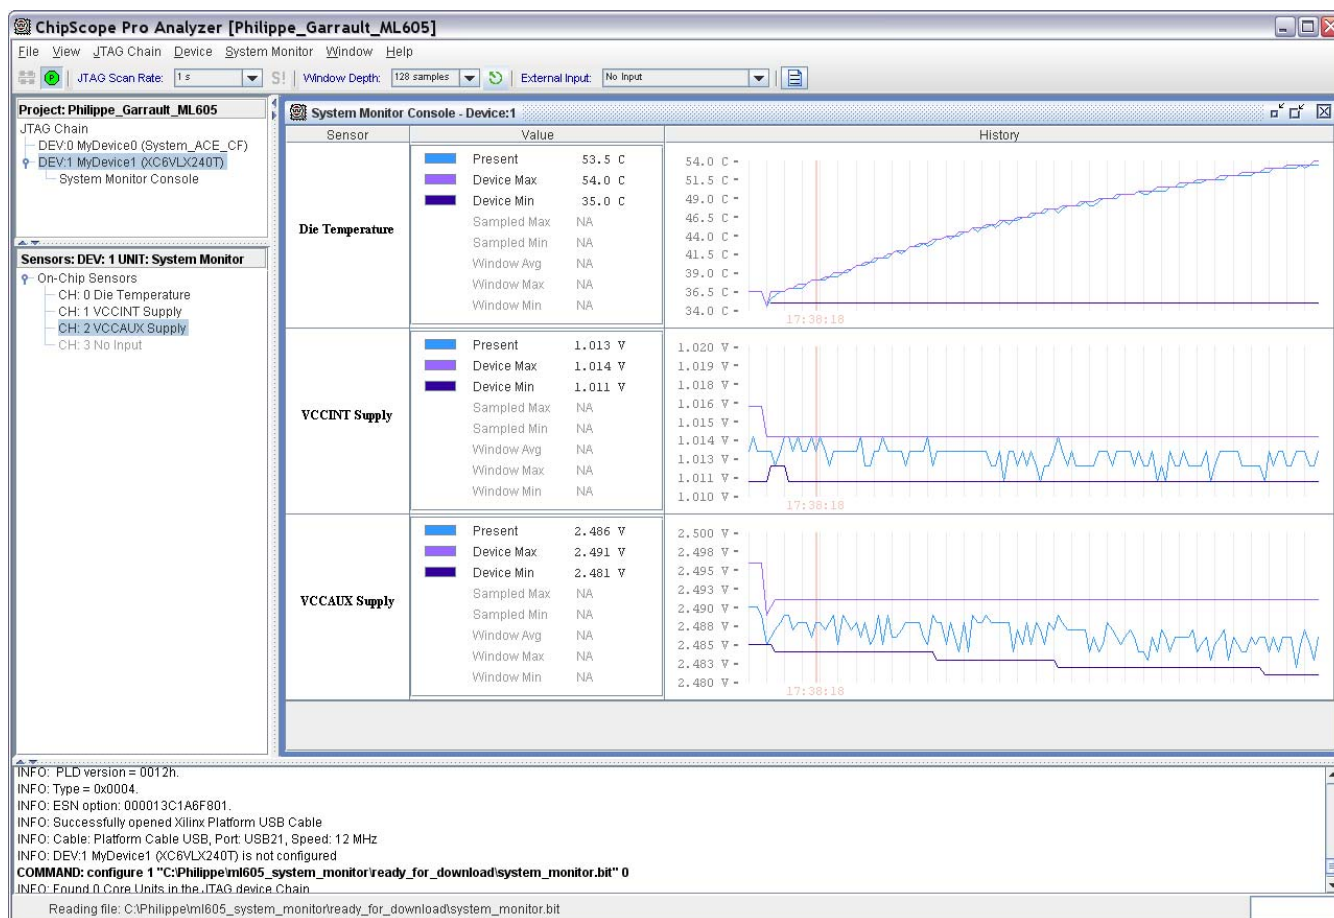

Figure 3-4: Voltage and Junction Temperature Monitoring with ChipScope
- **On-board Monitoring** – The latest Xilinx device families provide internal sensors and at least one analog-to-digital converter to measure supplied voltages and device temperature. The ChipScope utility provides real-time JTAG access to measure the different supply source voltages or device junction temperature before and after device configuration (see Figure 3-4). You can also instantiate a System Monitor or XADC component in your code to access these measurements from your FPGA application.
- **On-board Monitoring** – Thermal measurements are possible and use the same mechanisms as power measurements. You can use ChipScope before and after device configuration (see Figure 3-4), or use the System Monitor primitive within your design to read the device junction temperature.